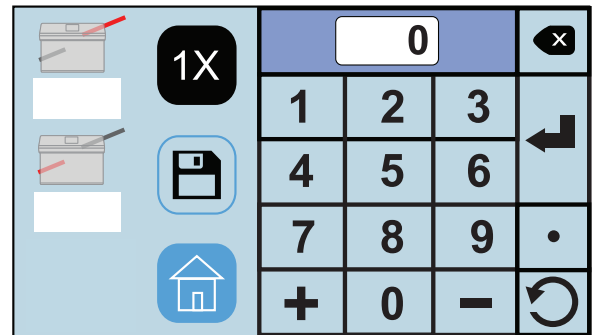

Fig. 15
1. Select the top fold plate icon  (Fig. 15) to set the fold stop position for the first fold (the icon will flash dark gray when selected). Using the touch pad, key in the measurement for the first fold stop position. (**Note:** the minimum position is 1.62" and the max. position is 12.59".).